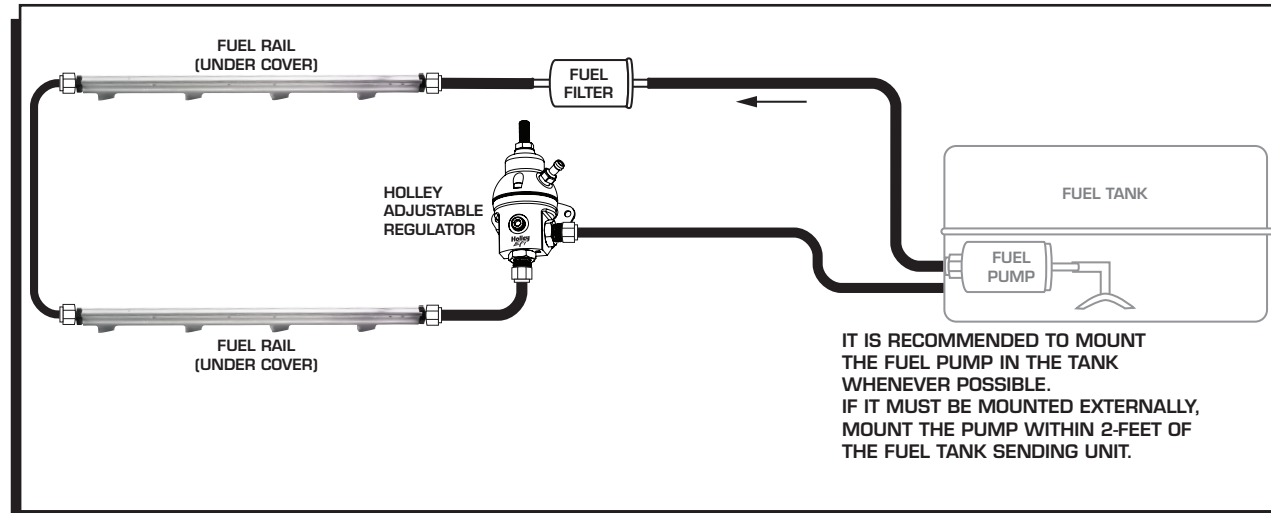
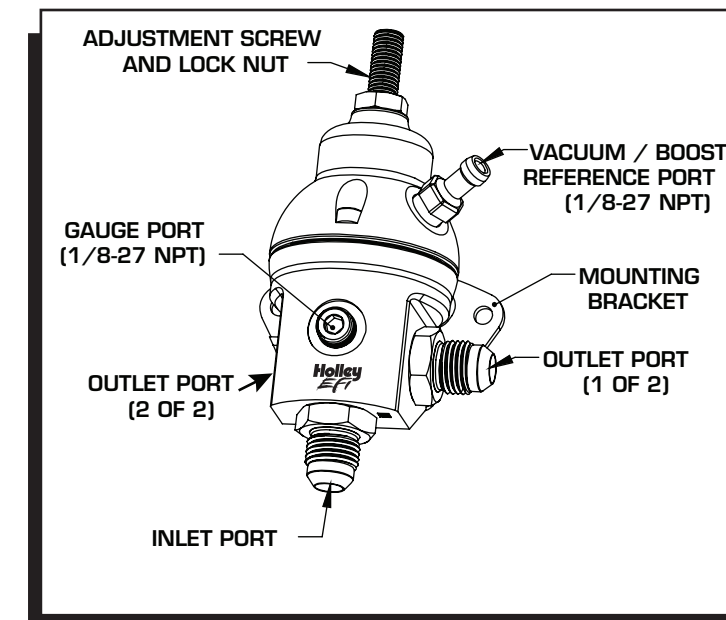

Figure 3 EFI Return Fuel System.
Figure 5 Regulator Feature Identification Guide
When installing the kit in conjunction with an EFI return system, refer to Figure 3. There are two possible connection points (one at the rear of each fuel rail assembly). One rail will be connected to the fuel supply in an operational system. DO NOT “tee” into the supply line and leave the opposing fuel rail plugged or capped (Figure 5). Fuel from the opposing rail should be routed to the regulator inlet port (using the supplied hose and fittings). The hose length between the rail and regulator is not critical, but should be kept to a minimum.
The regulator inlet port is located on the bottom surface, and clearly marked with an identifier machined in the housing (see Figure 5). Two (2) outlet ports are available, but typically only one (1) will be used. Install the supplied -8AN port plug in the unused outlet port using a 3/8-inch hex key (Allen wrench). The -8AN straight port fittings should be snugged with a wrench or deep socket.
Install the supplied 1/8-27 NPT brass hose barb fitting in the upper regulator housing (see Figure 5) using a 7/16-inch wrench or deep socket. Thread sealer is not required on this fitting, but can be used if desired. Connect an intake manifold vacuum / boost source to this fitting, or leave it open to the atmosphere if manifold pressure compensation is not required. **DO NOT plug this opening.** Ensure that contaminants (such as water and road spray) cannot enter the open fitting. In the event that vacuum / boost reference is